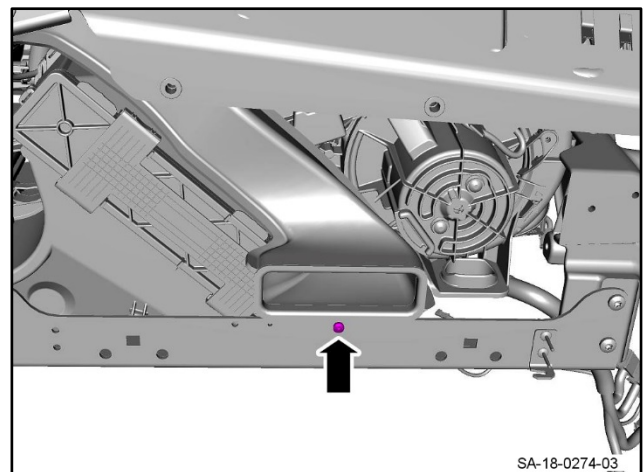

Figure 3
3. Remove the screw that attaches the right-side lower foot-duct to the cross car beam (refer to Figure 3). Move the duct only as necessary to get access to the ground plate.